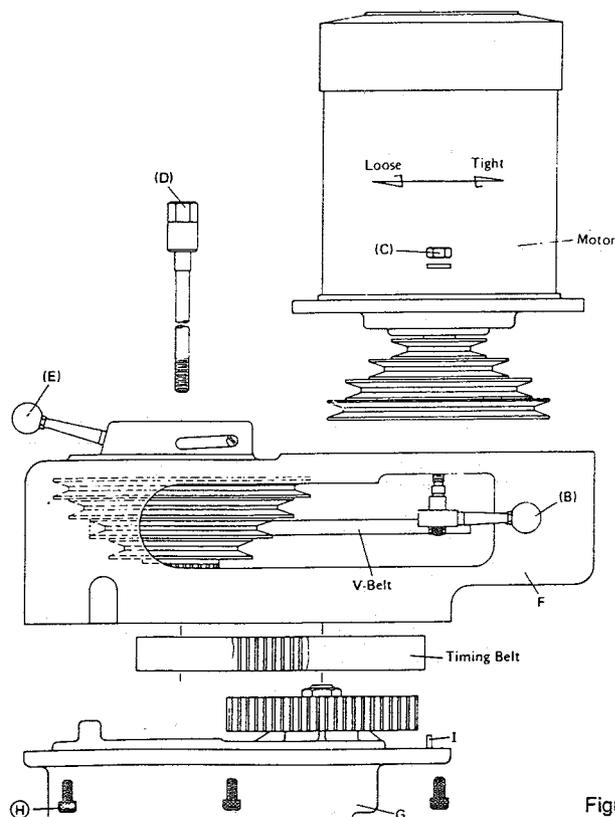

Figure 21
- c. As illustrated Fig.21 , loosen Adjusting motor handle (B) and move the motor forward to loosen the belt. Turn the V-Belt and let it slip off the belt wheel.
- d. Take off the two hexagonal nuts (C) for motor dismounting.
- e. Take out the drawbar (D) and drop the quill down to the lowest position.
- f. Push the hi-low speed selector (E) to the right front position.
- g. Dismantle the six concave bolts (H) connecting the belt housing (F) and gear housing (G). Strike upward the belt housing. V-Belt and timing belt are therefore replaced.